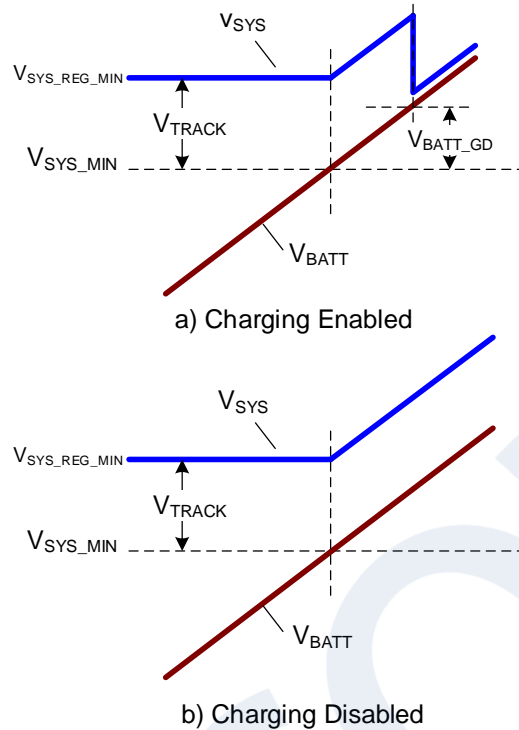

Figure 5: V_{SYS} Variation with V_{BATT}
3. If charging is suspended or completed, the system voltage is regulated to its maximum value (see Figure 5).